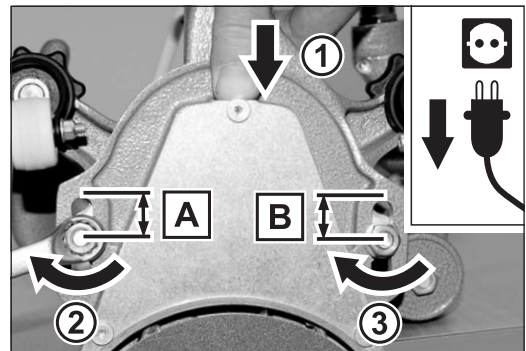

Fig. 26 Tighten the two nuts again while using your thumb to press the attachment forward in order to maintain the belt under tension. **A** and **B** should be equal.
- 7 Grab the ELAN at the suction muff and press the attachment forward with your thumb at the same time (fig. 26, 1). Make sure that the distances between the threaded studs in the long holes are equal on both sides (fig. 26, distance **A** = distance **B**).
- 8 With the attachment pushed forward, use the closed mouth wrench to tighten the two hexagonal nuts (wrench size 13 mm; fig. 26, 2 + 3).